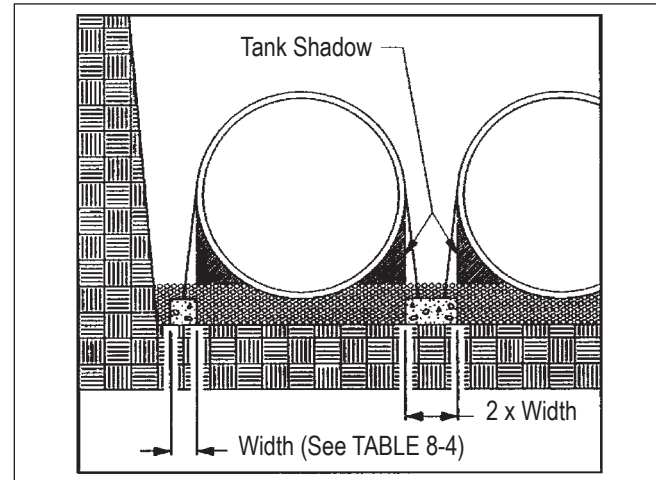

FIGURE 7-2
7.5.1.2. Always provide sufficient clearance to allow the deadmen to be set outside of the tank "shadow." See FIGURE 7-2.
7.5.2.3. If two or more tanks are installed in the same hole and deadmen are used, the space between the tanks must be equal to or greater than two times the width of the deadman or deadmen required between the tanks. See FIGURE 7-2 and TABLE 8-4.